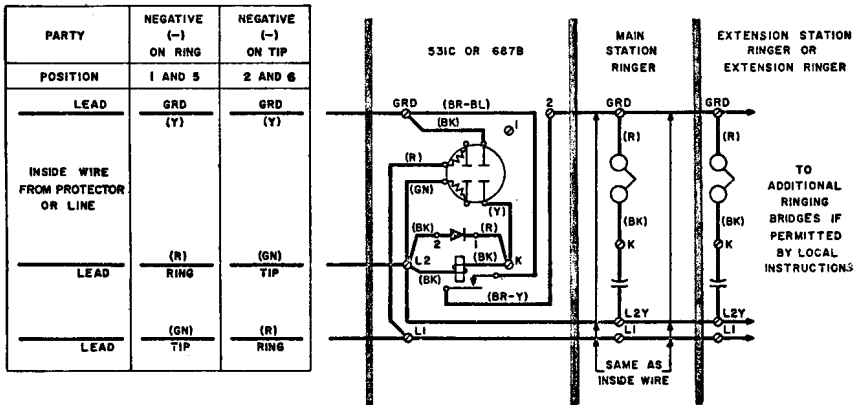

FIGURE 4. Modified 500 Subscriber Set Connections
- 2.04 In areas where inductive interference requires cold cathode tube-type ringing bridges, this ringer may be connected as shown in Figures 4 and 5.